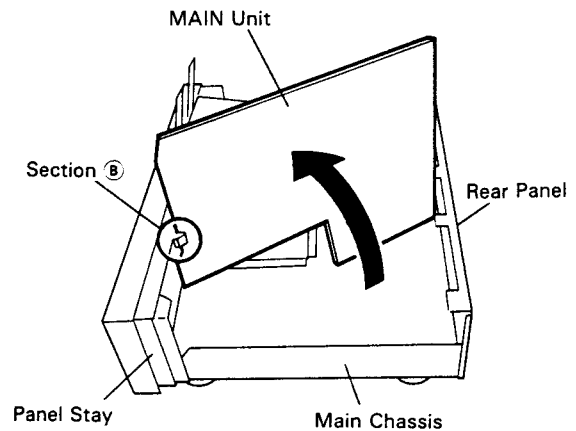

Fig. 5
10. Stand the MAIN unit up and stabilize the base against the base holder (Section B) on the panel stay, the chassis honeycomb section, and the rear panel. (Refer to Fig. 5.)